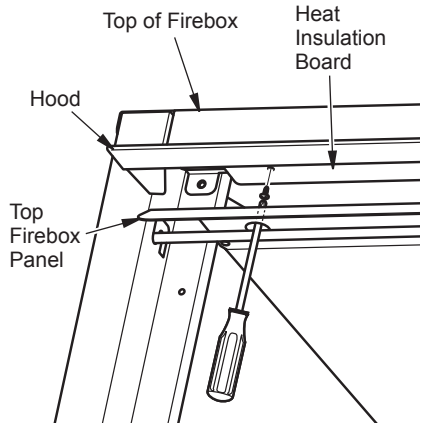

Figure 6 - Hood Installation
1. Align 3 holes in upper side of hood with holes in heat insulation board (see Figure 6).
2. Insert screwdriver through hole in top firebox panel to secure hood to heat insulation board with 3 screws (see Figure 6).